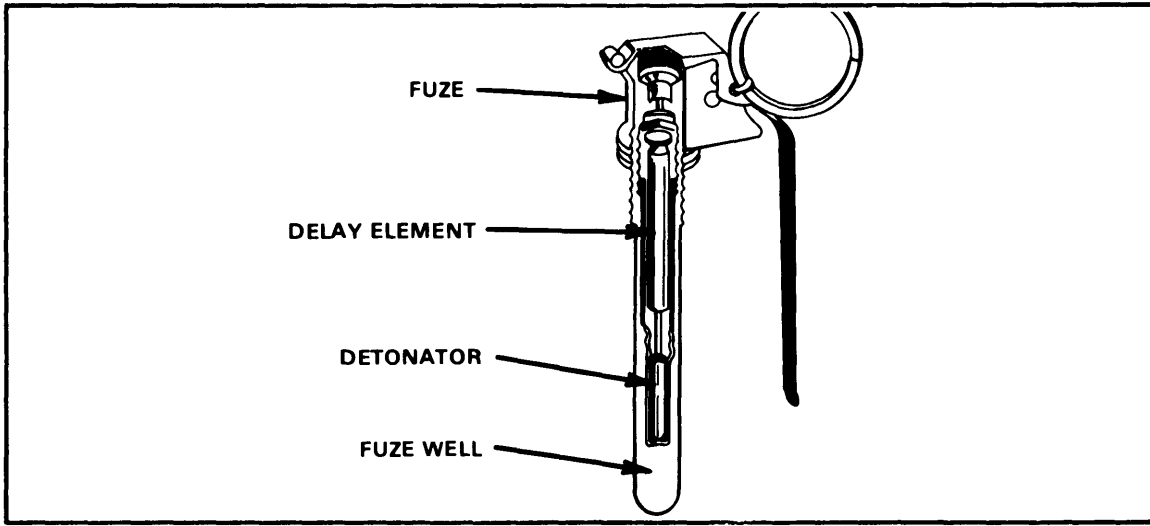

Figure 1-4. M206A2 fuze.
(2) M206A2 fuze (Figure 1-4). This fuze is used with the MK3A2 offensive hand grenade, commonly referred to as the concussion grenade. The M206-series of fuzes is similar to the M204-series, except for the safety lever. The M206 has a straight safety lever, while the M204 safety lever is curved. The delay element is a powder train requiring 4 to 5 seconds to burn to the detonator.